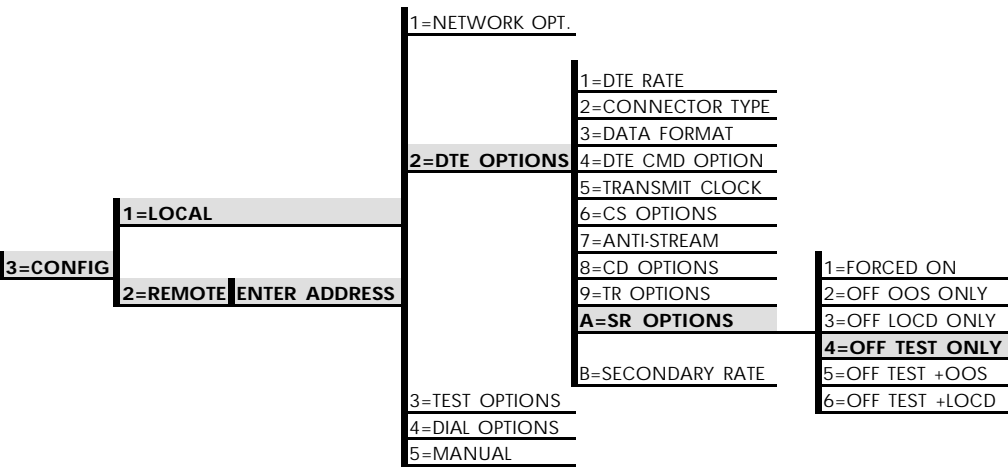

Figure 6-11
The SR OPTIONS menu is used to select the operating mode for the data set ready (SR) lead. Press **Shift + A** to activate the SR OPTIONS sub-menu. The factory default setting is OFF TEST ONLY (shown in Figure 6-11).